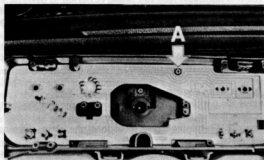

Fig. 10.34. Location of printed circuit board retaining screw (Sec. 37)
- 4 Remove the single retaining screw shown in Fig. 10.34, and move the board as far as possible to the right before carefully lifting it out of the instrument housing.